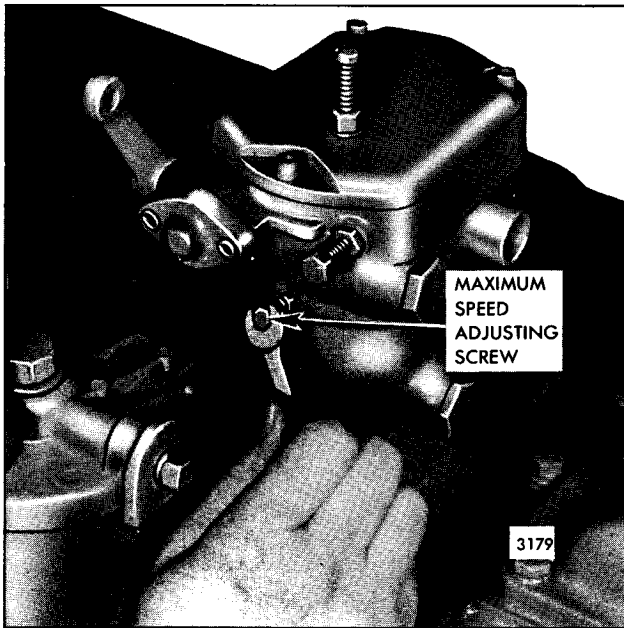

Fig. 10 - Adjusting Maximum No-Load Engine Speed
2. Turn the maximum speed adjusting screw (Fig. 10) in until the screw contacts the throttle linkage internally, limiting the maximum speed.